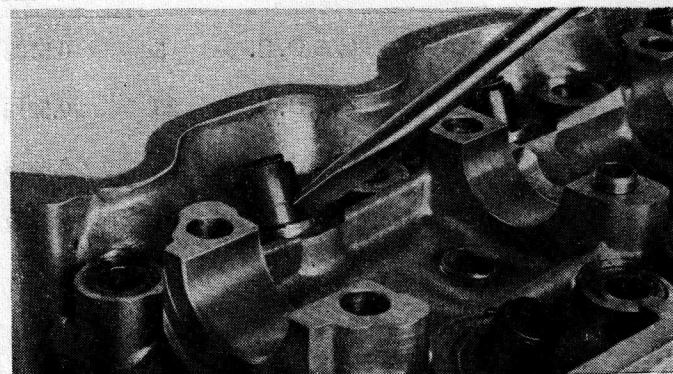

Fig. 43 Removing Valve Stem Seals
(7) Pry off valve stem seals by means of a screw driver. (Fig. 43)